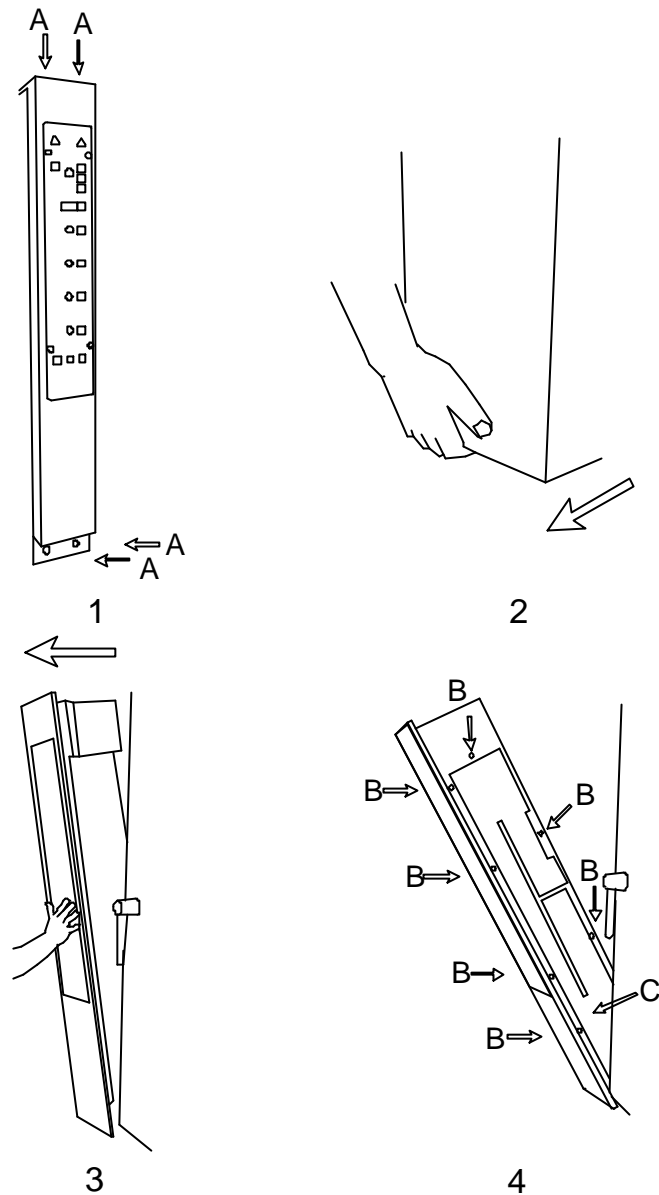

figure 2e
To access the power supply terminal box, unscrew the four "A" screws (fig 2e item 1), pull the panel (fig. 2e item 2) towards yourself and turn it forward (fig. 2e item 3). Unscrew the seven "B" screws securing the cover; the terminal block is located in position "C" (fig. 2e item. 4).